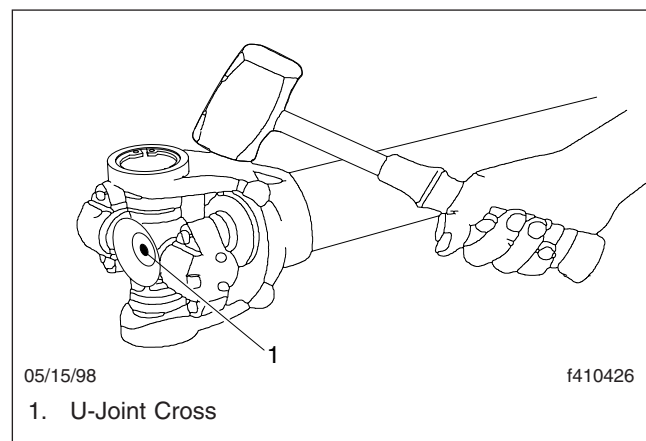

Fig. 15, Striking the Yoke Ear
- 4.7 If the universal joint does not move freely, strike the yoke ear with a brass or copper hammer. See **Fig. 15**.